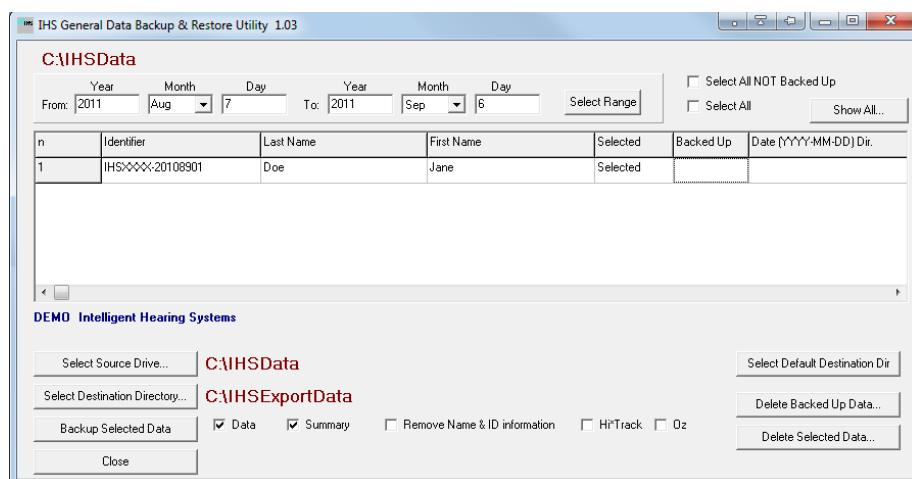

Fig. 7. - Backup and Restore Utility
2. When the Data Backup and Restore Utility (see Fig. 7 on page 12), click on the [Select Source Drive] button and choose the location of the patient file you want to restore.